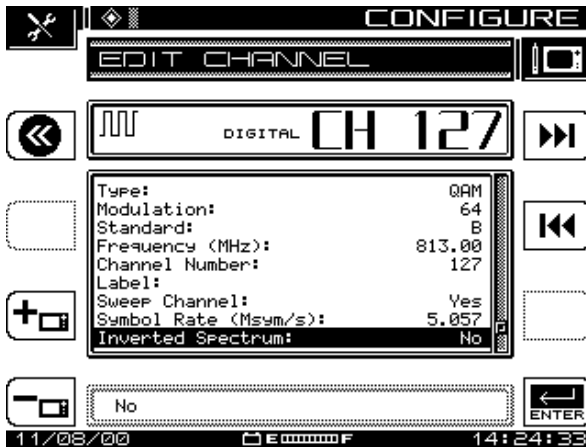

Fig. 3-11 EDIT CHANNEL Menu Screen (Inverted Spectrum)
6. If the default setting for Inverted Spectrum is incorrect, press the diamond key to highlight Inverted Spectrum and press Enter to edit the current selection. Use the down diamond key to select the alternate choice, and press Enter (see Figure 3-11).